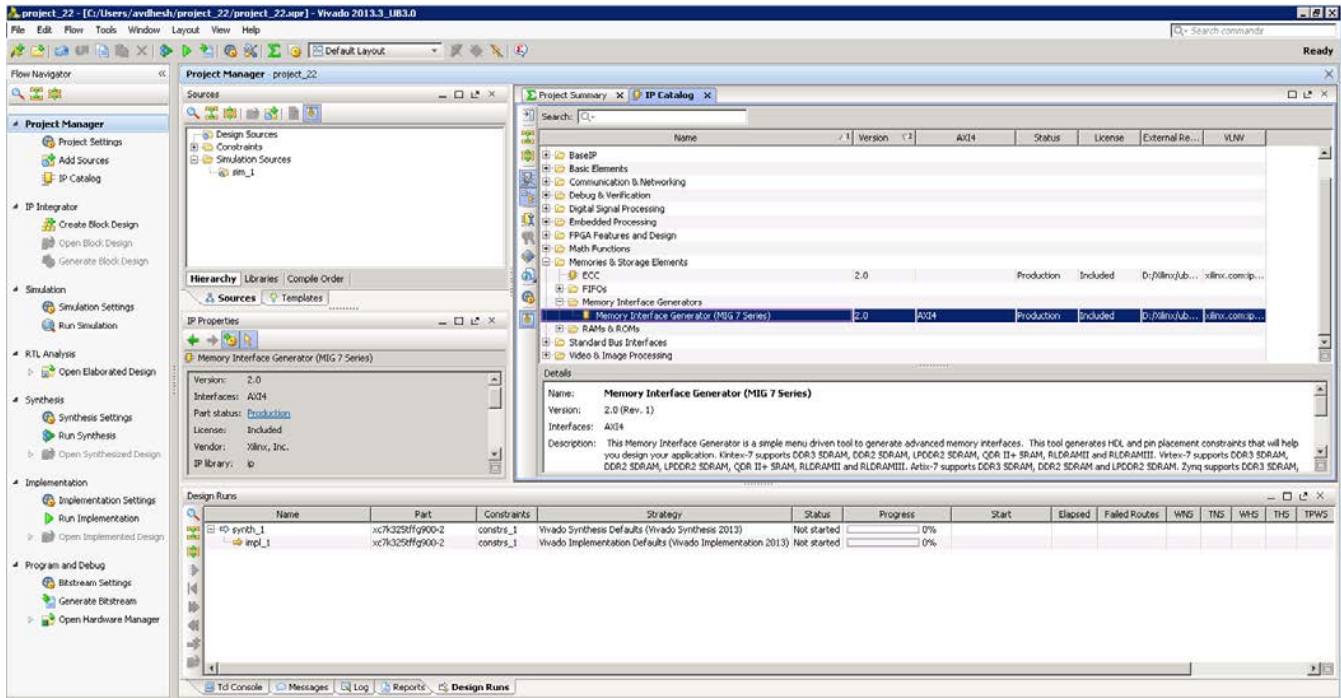

Figure 1-12: IP Catalog Window – Memory Interface Generator
- Click **IP Catalog** on the Project Manager window to open the IP catalog window. The Vivado IP catalog window appears on the right side panel (see Figure 1-12, highlighted in a red circle).
- The MIG tool exists in the **Memories & Storage Elements > Memory Interface Generators** section of the IP catalog window (Figure 1-12) or you can search from the Search tool bar for the string "MIG."